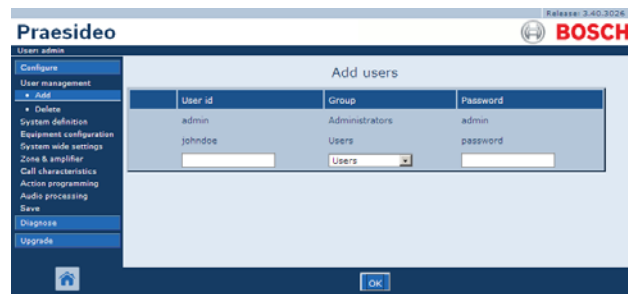

figure 41.4: Add user, step 5
- 5 Click the *OK* button to activate the new account. A screen similar to the one in figure 41.4 appears in the main frame of the web interface.